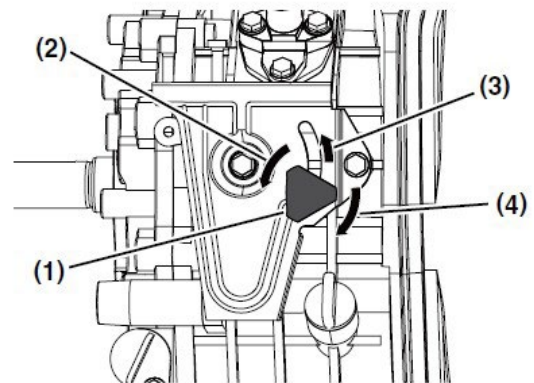

Figure 19
3. If your engine speed control is similar to **Figure 19**:
- (a) Turn the engine speed control knob (**Figure 19, (1)**) to the left (**Figure 19, (2)**).
- (b) Slide the engine speed control knob to the STOP position (**Figure 19, (3)**).
- (c) Turn the engine speed control knob to the right (**Figure 19, (4)**) to tighten it.